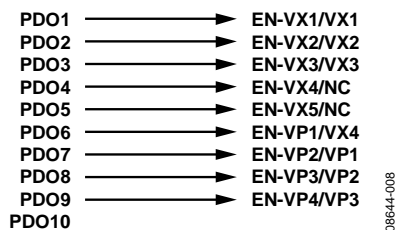
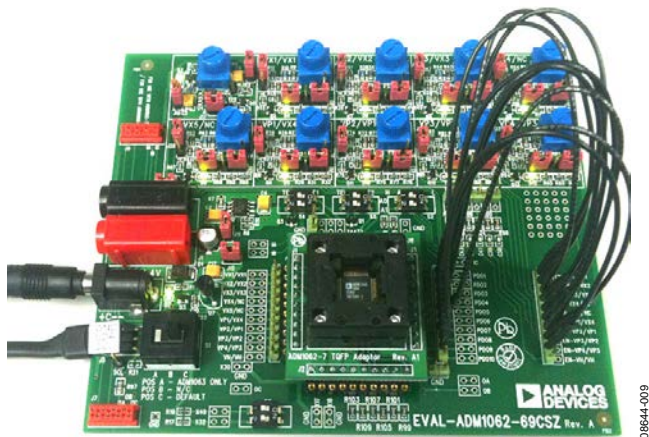

Figure 4. Demo Patch Connection 1
Figure 5. Evaluation Kit Quick Start Setup
3. Use the point-to-point patch cables to connect the PDOx pins to the enable pins of the LDOs as shown in Figure 4 and Figure 5.